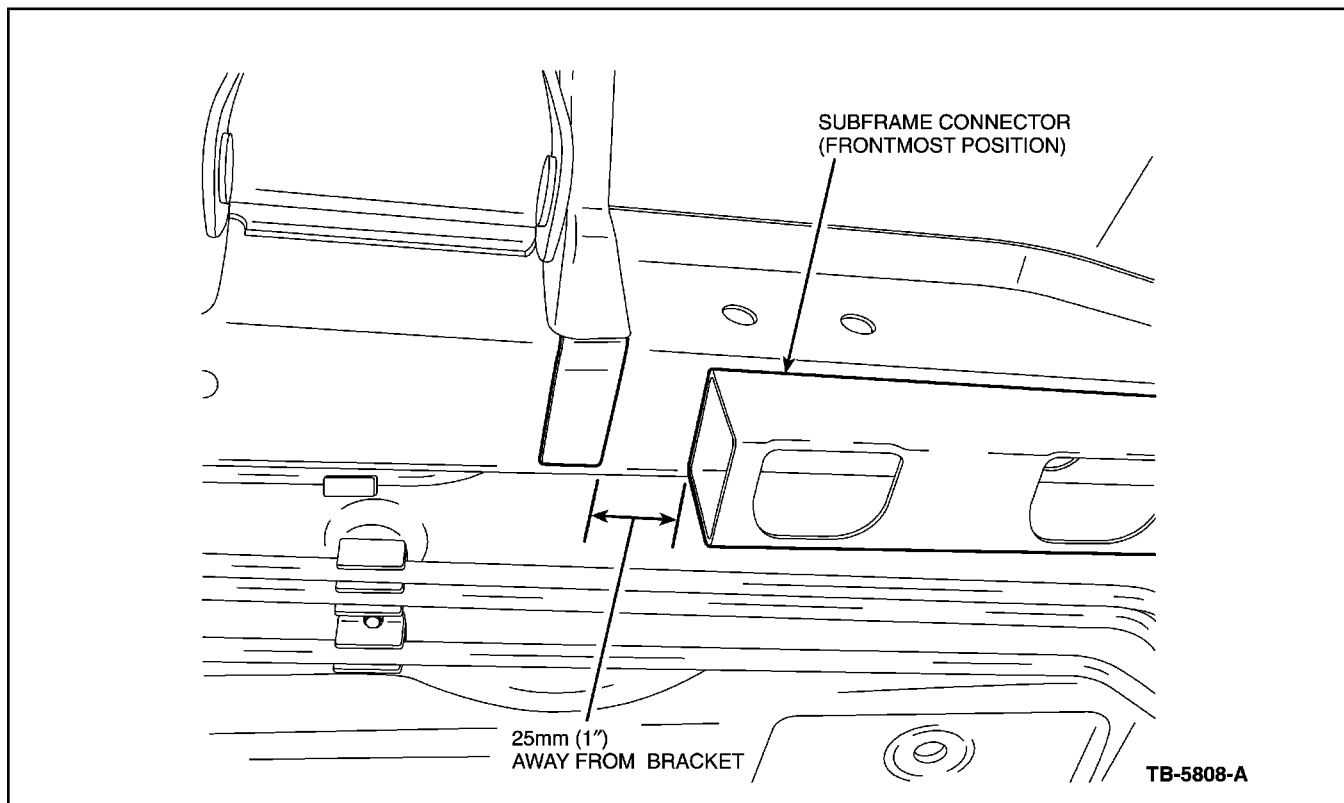

Figure 1 - Article 00-9-7
10. Install a set of Underbody Rails (XR3Z-76101W09-AA - Left and XR3Z-76101W08-AA - Right). Refer to Figure 1 to determine where to place the rails to the underbody. The underbody rails will need to be welded to the underbody of the vehicle by referring to the following: